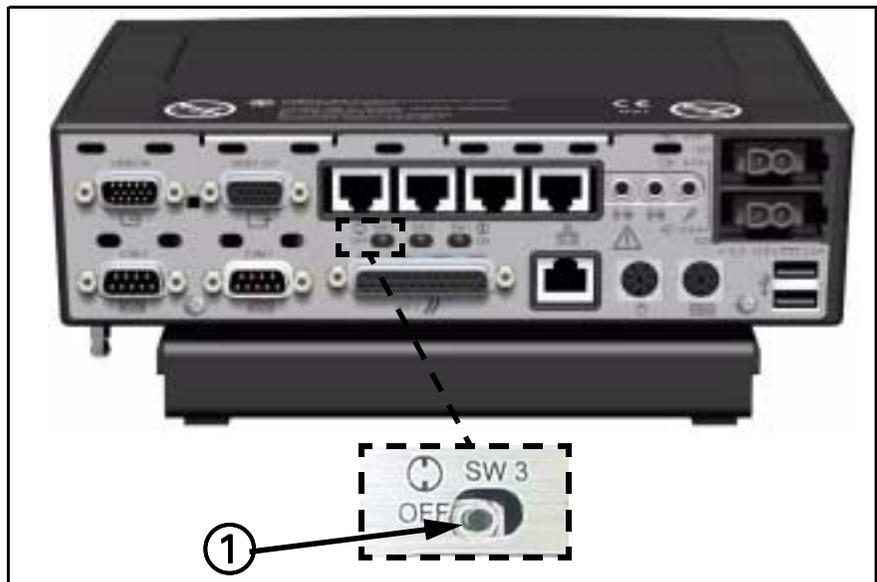

Figure 4-1 MDS (rear view)
Verify that BIOS switch (see ① in insert in Figure 4-1) on rear of MDS is set to right.
3. At DOS A:> Phlash prompt, type C: (① in Figure 4-1) and press <Enter>.
4. At DOS C:> prompt, type md^**plash** (② in Figure 4-1) and press <Enter>.
5. At DOS C:> prompt, type x: (③ in Figure 4-1) and press <Enter>.
6. At DOS X:> prompt, type copy^**plash**^c:**plash** (④ in Figure 4-1) and press <Enter>.